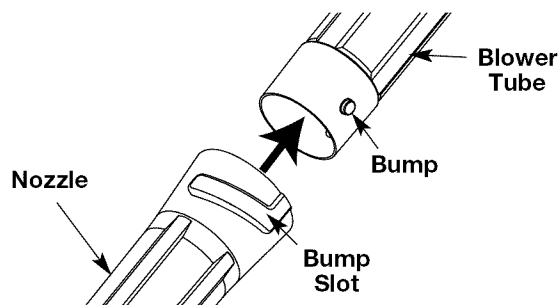

Fig. 3
1. Align the bump on the end of the blower tube with the bump slot on the bottom end of the blower outlet (Fig. 3).
2. Insert the bump on the blower tube into the bump slot on the nozzle (Fig. 3).